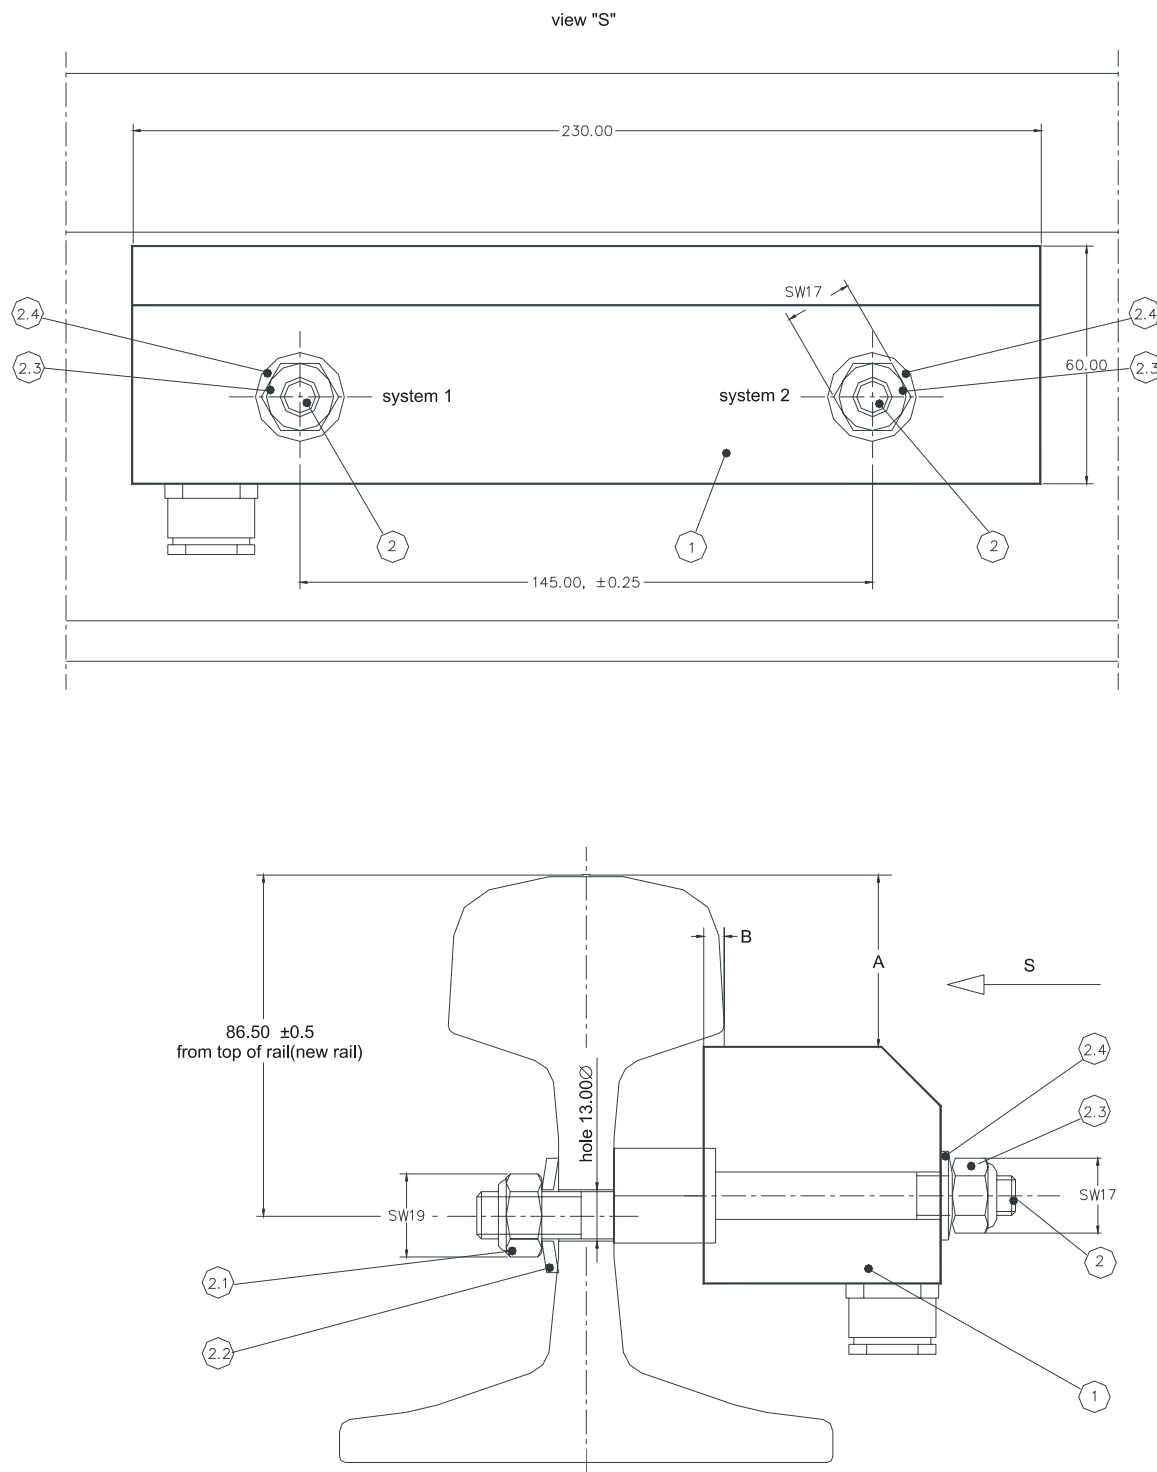

Fig. 1: Web of rail mounting of wheel sensor type RSR180
The maximum rail wear is determined by rail profile and type of mounting. Please comply with the requirements set forth in the mounting instructions of measure "A" (see fig.1 and fig.2) between top of rail (SOK) and top of wheel sensor. In case of deviations please consult the manufacturer.
Scope of delivery comprises the following components (see fig. 1):
- Drill fastening holes with 13 mm (± 0.1 mm) diameter, at a distance of 145 mm (± 0.25 mm) to web of rail according to fig. 1. At a distance of 86.5 mm (± 0.5 mm) between top of rail and holes, measure "A" (top of rail to top of wheel sensor) is set at about 43.5 mm. At a distance of 84 mm between top of rail and holes, measure "A" is set at about 41 mm.
The following mounting instructions apply to fig. 1.